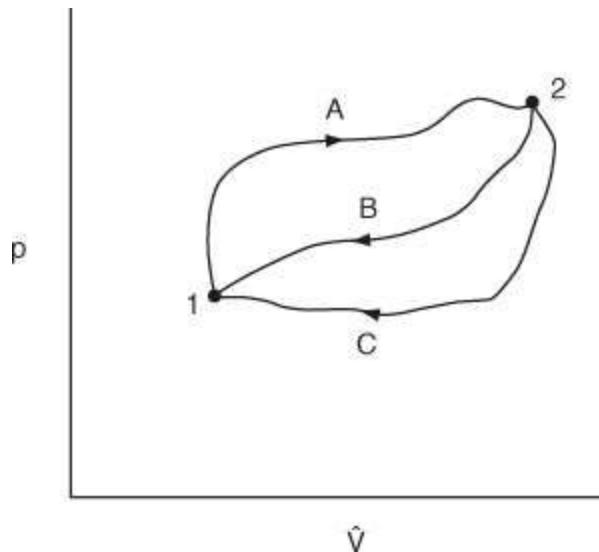

Figure P9.3.11
**9.3.11. Two states, 1 and 2, are marked in Figure P9.3.11. Path A is taken from 1 to 2. Two alternative return paths from 2 to 1 are shown: B and C. Two different cycles can now be made up, each going from point 1 to point 2, and then returning to point 1. One cycle is made up from path A and path B, and the other from path A and path C. Are the following equations correct for the cycle 1 to 2 and return?